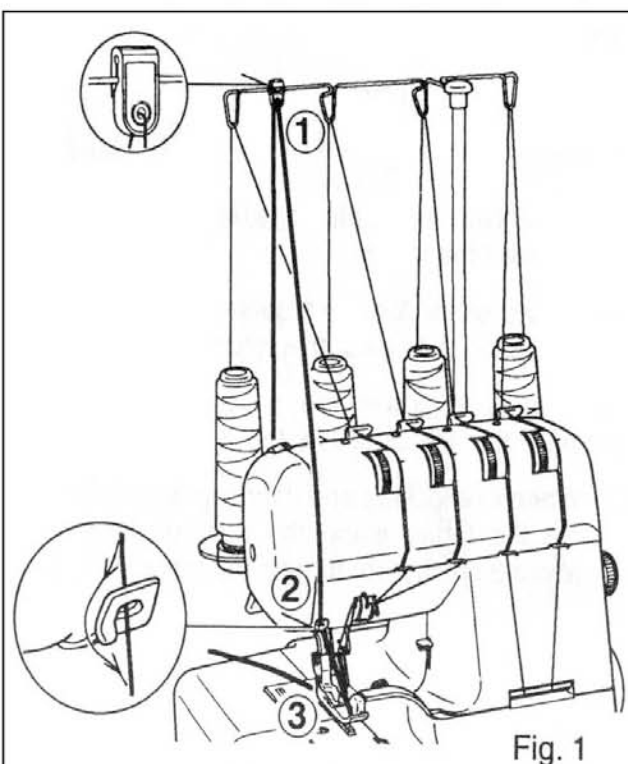

Fig. 1
2.After finishing , reset the stitch finger in its place. Please ensure inserting it deep as illustrated in Fig 1.
Turn it towards "5" if fabric edge curls while sewing.(Fig.1)
3. Turn the fabric, lower the presser foot and begin stitching in the new direction. Fig. 1.
1. Snap the detachable cord guide, in your accessory set onto the thread guide pole (Fig.1).
2. Place a "filler" cord, such as a crochet cotton, gimp, wool, knitting yarn, or shirring elastic at the rear of the machine spool pin. Pass the cord through the cord guides (1) and (2) and then through the left needle thread guide (3). See Fig. 1.